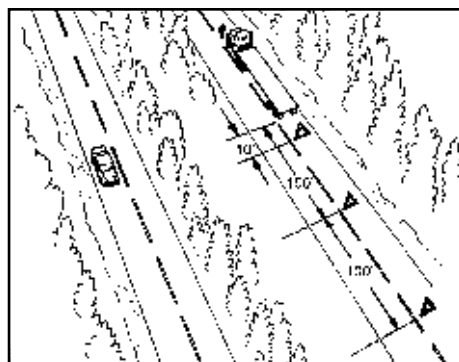

Figure 2-8
- If you must stop on or by a one-way or divided highway, place warning devices 10 feet, 100 feet, and 200 feet from the rear of the disabled vehicle. (See Figure 2-8.) One suggestion for placing cones is as follows: Take 4 30" paces and set the first cone, then keep counting to 40 paces and set the second cone, then keep counting to 80 paces and set the last cone.